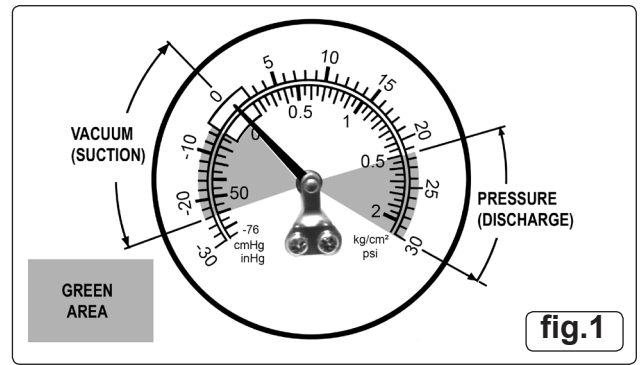

fig.1
- 4.8.** Open the air inlet valve on the unit. (fig.3-10) Using the regulator on the unit (fig.3-9) increase the vacuum gradually down to -60cmHg until suction starts. Monitor the vacuum in the tank using the pressure gauge (fig.3-2). The needle should remain in the green area on the left hand side of the gauge (see fig.1).
Open the air inlet valve on the unit to start the draining process. (fig.3-10) Using the regulator on the unit (fig.3-9) increase the pressure gradually to between 23 and 30psi until draining starts. Monitor the pressure in the tank using the pressure gauge (fig.3-2). The needle should remain in the green area on the right hand side of the gauge (see fig.1).